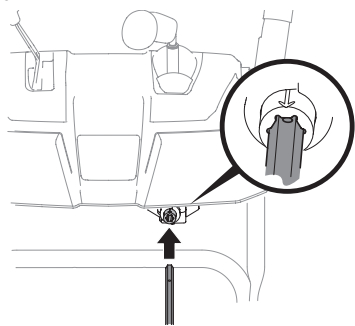

Figure 18
6. Insert chute control rod into pinion gear under handle panel. Make sure to line up hole in rod with arrow on pinion gear (Figure 18).